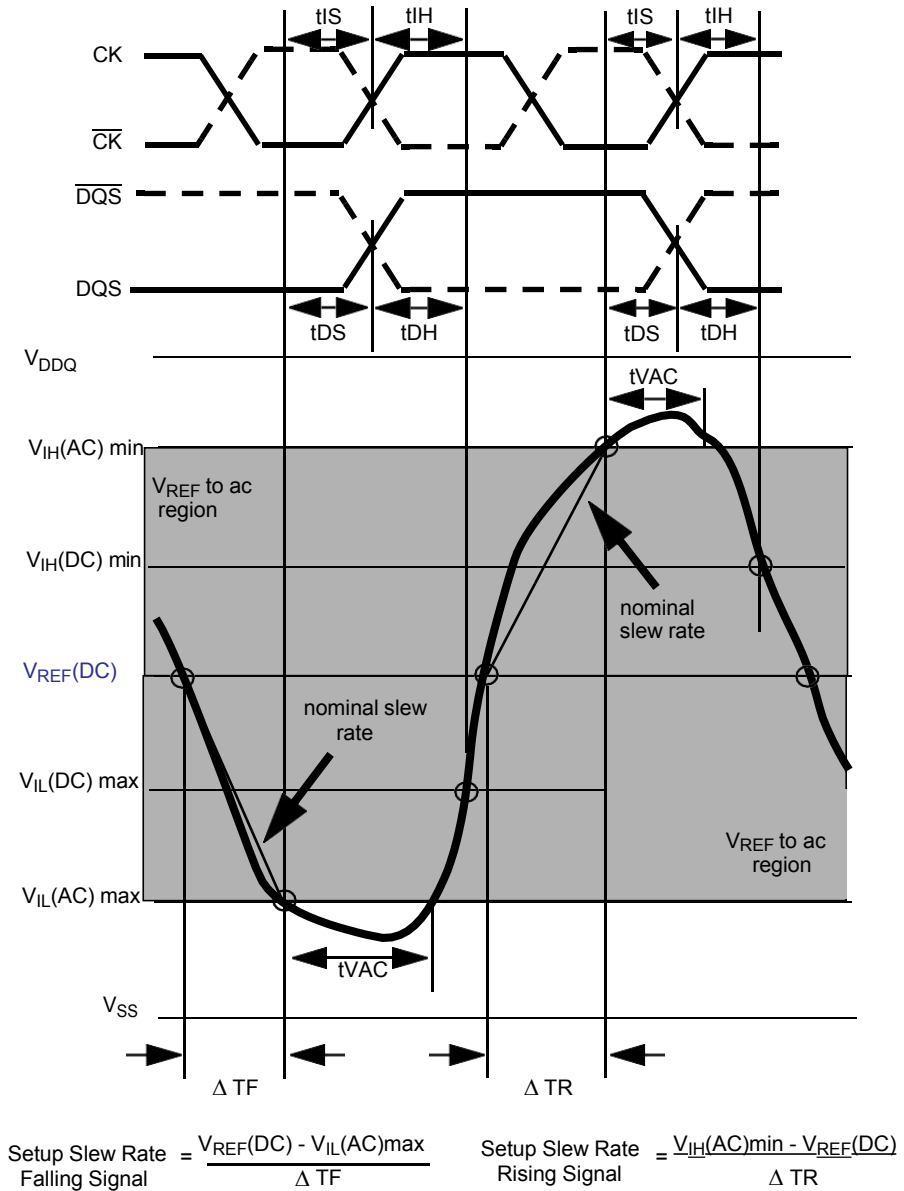

Figure 25. Illustration of nominal slew rate and t_{VAC} for setup time t_{DS} (for DQ with respect to strobe) and t_{IS} (for ADD/CMD with respect to clock).
Setup (tDS) nominal slew rate for a rising signal is defined as the slew rate between the last crossing of VREF(DC) and the first crossing of VIH(AC)min. Setup (tDS) nominal slew rate for a falling signal is defined as the slew rate between the last crossing of VREF(DC) and the first crossing of VIL(AC)max (see Figure 25). If the actual signal is always earlier than the nominal slew rate line between shaded 'VREF(DC) to ac region', use nominal slew rate for derating value. If the actual signal is later than the nominal slew rate line anywhere between shaded 'VREF(DC) to ac region', the slew rate of a tangent line to the actual signal from the ac level to dc level is used for derating value (see Figure 27).